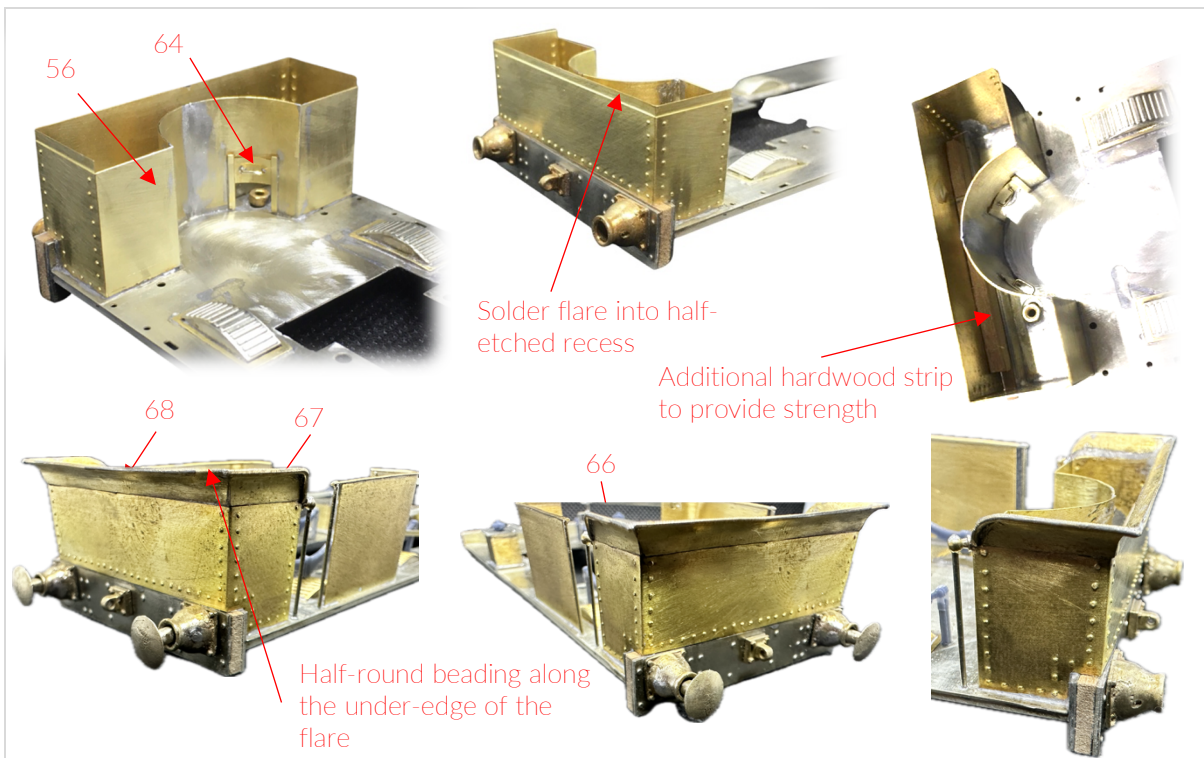

Fig 2.7 – The bunker is seated around the buffer beam, and should sit flush with the outer face.
2.7 – Bunker. The bunker is made from one single part (65), folded and soldered together in the middle of the curve. Begin by punching out the rivets. Curve the two end sections of 65 by forming them round a suitable cylinder. The finished curve should have a radius of 10.5mm. The nickel silver tube provided for the boiler can be used to achieve this, especially if you anneal the curved portion of the bunker piece first, as the boiler has a diameter of 20mm. Fold up the bunker along the half-etched lines. Check it aligns with locating holes on the footplate and solder the overlapping half-etched join on the curve. Use plenty of solder to fill any gaps in the join, and dress back to a smooth curve. Solder to the footplate. Add the sliding coal doors (64) by curving and soldering around the cut-outs in the curved section of the bunker. Use 0.5mm wire for the handles. Glue (superglue or epoxy) a spare strip of hardwood across the rear panel of the bunker – this will give added strength and protect from damage as the back of the bunker isn't as yet fixed to anything. (Fig 2.7)